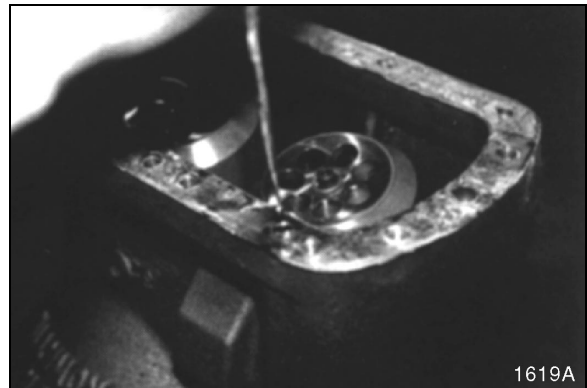

Figure 26
10. Remove steel balls, using magnetized rod or driver. See Figure 26.